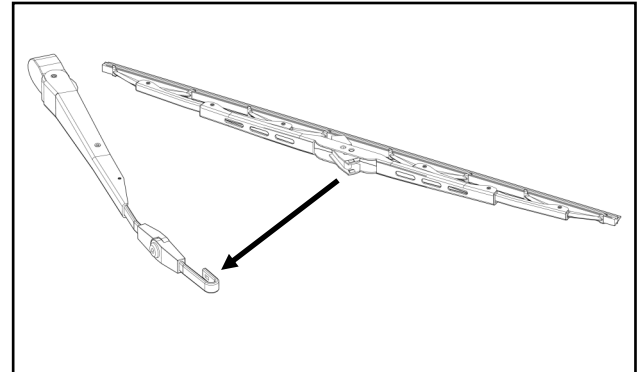

Fig. 1.14 (Install Wiper Blade onto Wiper Arm)
1.14 Per figure 1.14, install wiper blade to wiper arm.